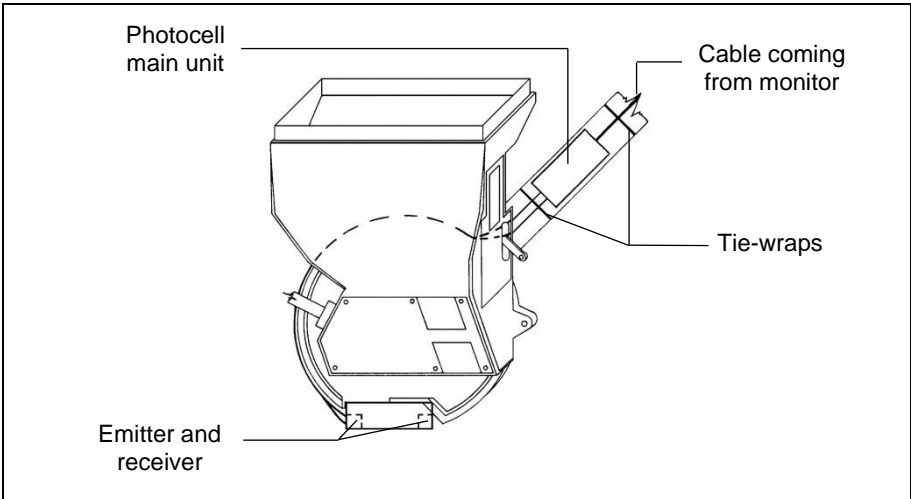

Figure 5. Example of installation of a photocell with bracket on the sowing element.
- If the sowing elements of the planter are "low" and the seeds fall directly from the disc to the ground, you should install photocells with bracket (according to the type of planter), and should be assembled directly onto the sowing element (Figure 5).